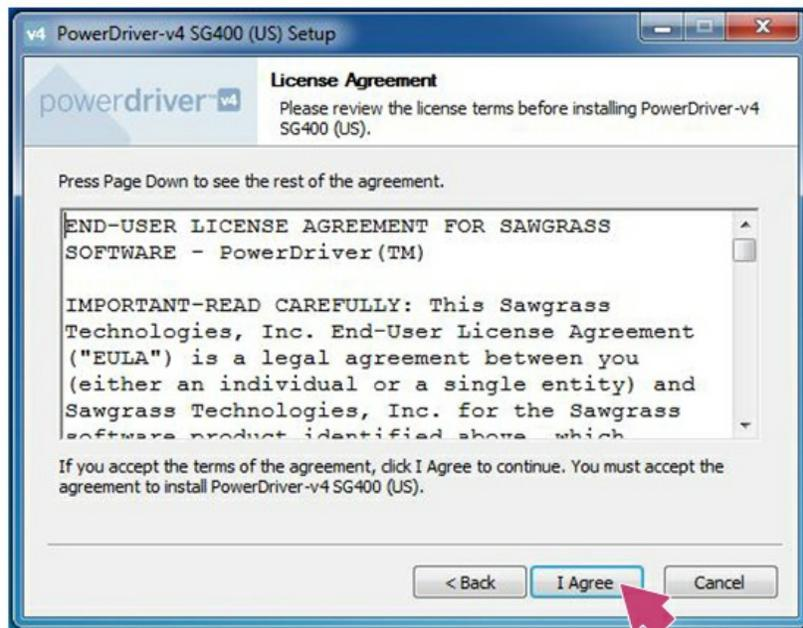

FIGURE 7
7. If you agree with the terms of the License Agreement, click **I Agree**. See Figure 7.